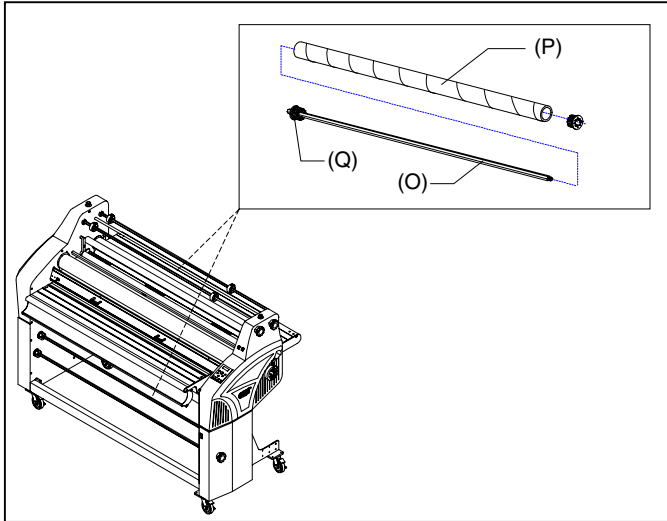

Fig. 19
**O. REWIND SHAFT:** (Figure 19) The rewind shaft holds the rewind tube on the machine.
**P. REWIND TUBE:** (Figure 19) The two rewind tubes located at the front of the machine are used to rewind release liners. The one located at the rear of the machine is used to rewind the finished product.
**Q. REWIND ADAPTORS:** (Figure 19) Hold and lock the rewind tube on the rewind shafts to prevent side to side shifting.
**X. SEPARATOR BAR OPTION:** (Figure 19) Required if running Accushield® material.